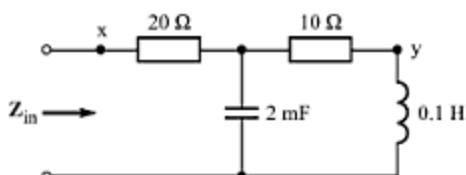

Fig. C-47
- C-44.** If $\omega = 100 \text{ rad/s}$ in the circuit shown in Fig. C-47, find (a) Z_{in} , and (b) Z_{in} if a short circuit is connected between x and y .